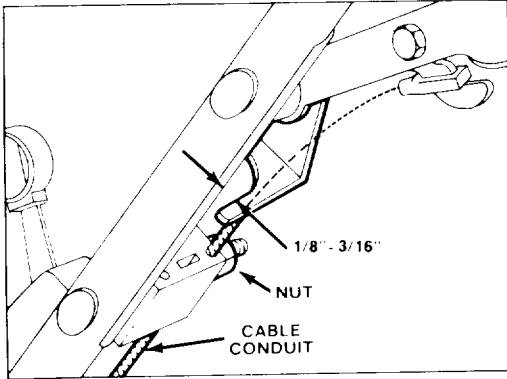

Figure 18
2. CHECK ADJUSTMENT (Fig. 18) — Move control bar toward handle until slack in wire is removed. Gap between brake lever and handle must be 1/8" - 3/16". See step 3 for adjustment.
3. **ADJUST CABLE CONDUIT** — Loosen nut on cable bracket (Fig. 18). Insert 1/8" - 3/16" object between brake lever and handle. Pull down on cable conduit until slack is removed. Then tighten nut.